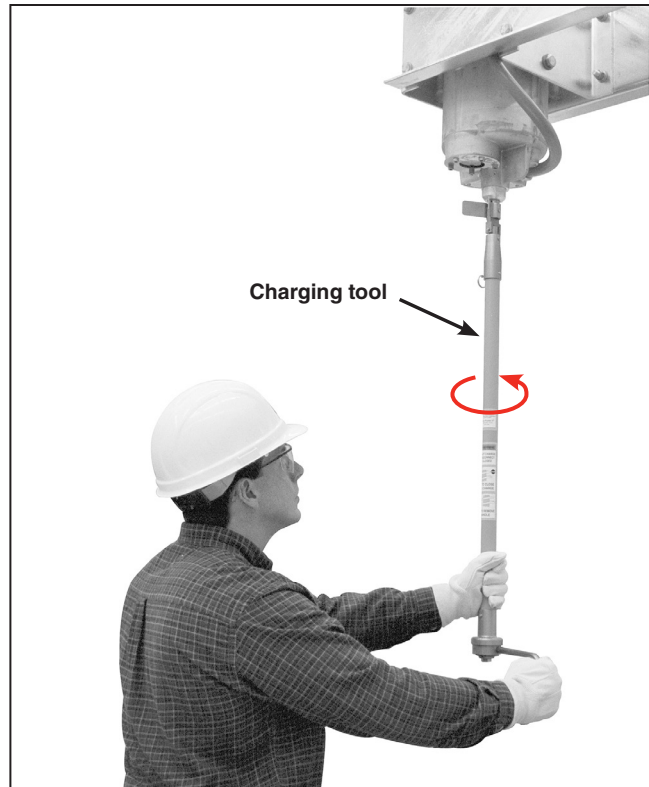

Figure 15. Rotate the tool handle counterclockwise until the internal stop is reached.
STEP 8. Rotate the charging tool handle *counterclockwise*, as indicated on the tool, to close and charge the pole-unit. See Figure 15. Approximately 40 revolutions are needed. Keep turning until the internal stop is reached. The torque limiter will slip after this point. The charging tool cannot be removed until Step 9 has been completed, so DO NOT attempt to remove the tool at this time.